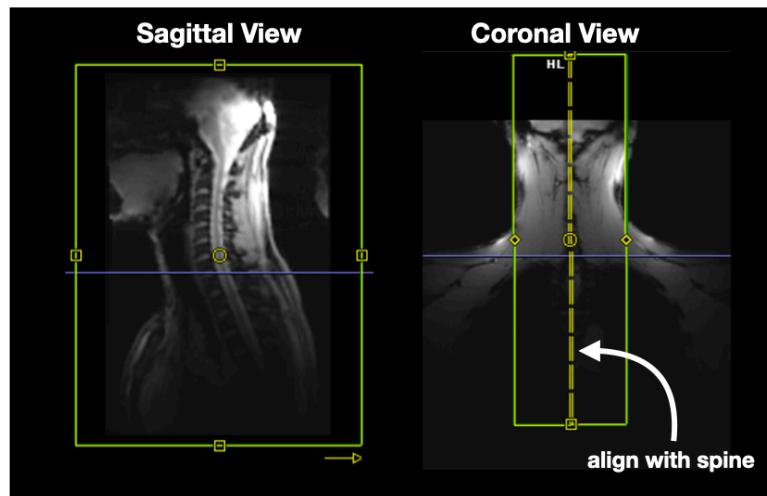

Figure 13. Positioning of FOV for TFL_rfmap scans
- **Position the Field of View (FOV) according to Figure 13.** The center of the FOV should roughly correspond to where you put the isocentre. If the FOV in the FH direction for the imported protocol is too large for your coil, use the largest FOV possible in the FH direction for your coil.
- **Position the B0 adjust volume according to Figure 13 (the GRE scan).** The B0 shim volume should cover the whole FOV. If it does not, go to System > Adjust Volume, and click Reset.